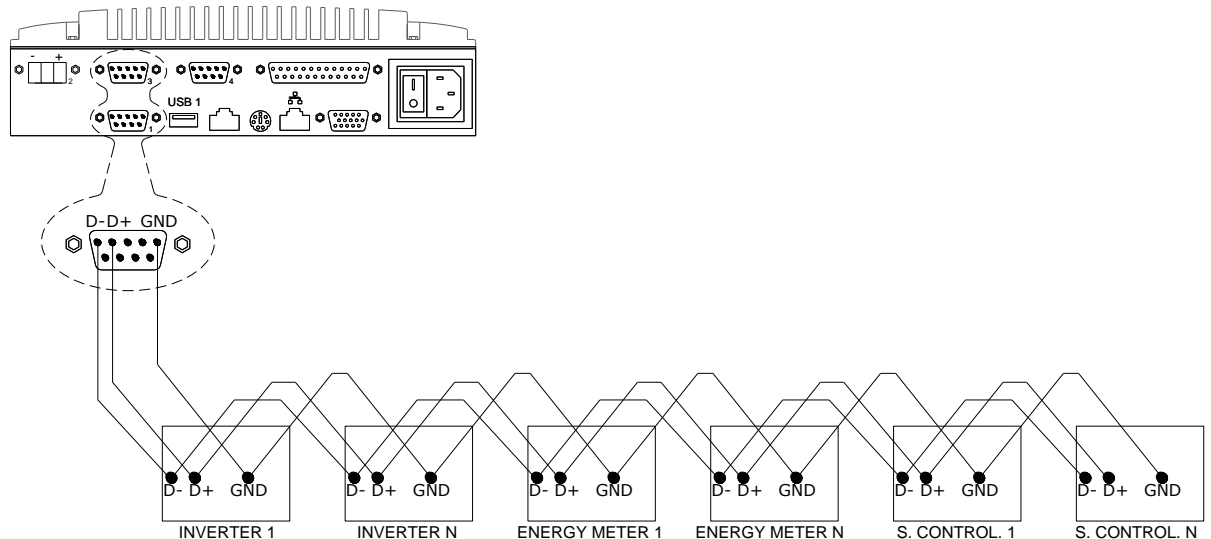

Figure 2 - RS-485 Bus Connection
- Connect the device to the RS-485 communication ports. The devices' communication interfaces must be connected in parallel topology (Figure 2) according to what is prescribed by standards RS485 line.